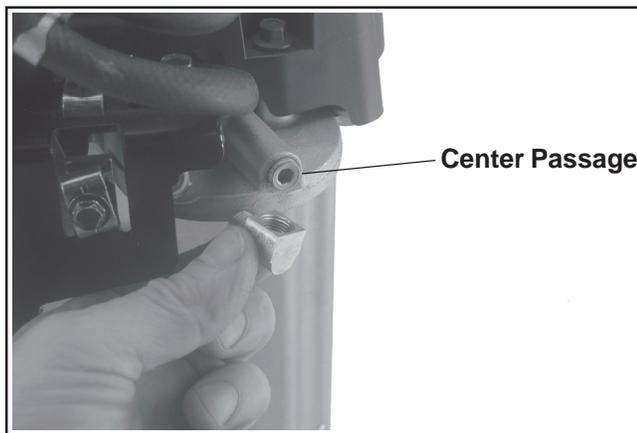

Figure 10-73. Installing Pipe Plug or Adapter.
1. Apply **pipe sealant with Teflon®** (Loctite® No. 59241 or equivalent), to the threads of the 1/8" pipe plug or adapter. Install and tighten into the port on the closure plate. See Figure 10-73. Torque pipe plug to **4.5-5.0 N·m (40-45 in. lb.)**. If a switch was installed, apply sealant to the threads of the Oil Sentry™ switch and install into the adapter or center passage. Torque the switch to **4.5-5.0 N·m (40-45 in. lb.)**. Connect the green wiring harness lead to the terminal on the switch. See Figure 10-74.